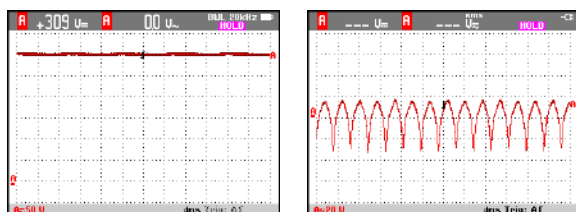
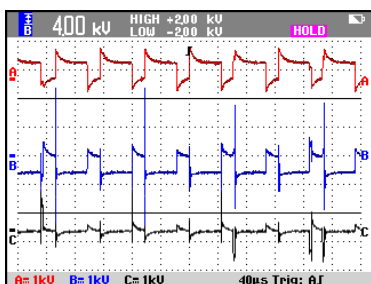

Figure 3. These show an example of dc coupled versus ac coupled waveform traces from an oscilloscope used to inspect overall dc and ripple voltages.
Figure 9. This shows an oscilloscope screen capture of a PWM drive signal with excessive reflections (B input trace).
- If the ripple's peaks have a different repetitive level, one of the rectifier diodes is possibly malfunctioning (this is load dependent). Ripple voltages above 40 V can be caused by malfunctioning capacitors or a drive rating that is too small for the connected motor and load (see **Figure 3**).
Most digital multimeters don't have the sample rate and frequency bandwidth to detect short, fast output transients. For this reason, use an oscilloscope connected to the motor terminals as illustrated in **Figure 3**. The B input trace in **Figure 9** demonstrates how excessive reflections appear in waveform view. Knowing what a particular distortion looks like helps reduce the time necessary to identify root cause.